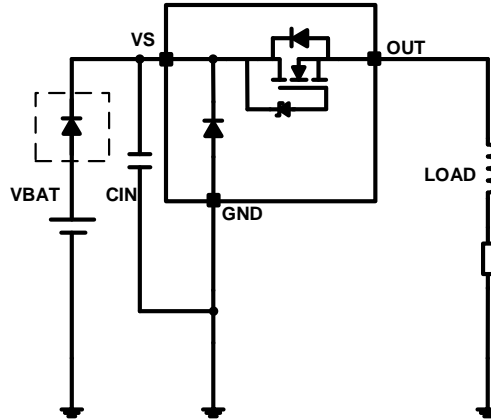

Figure 22. Reverse-Current External Protection, Method 1
- As shown in Figure 22, adding a blocking diode between power supply and the VS pin of device.